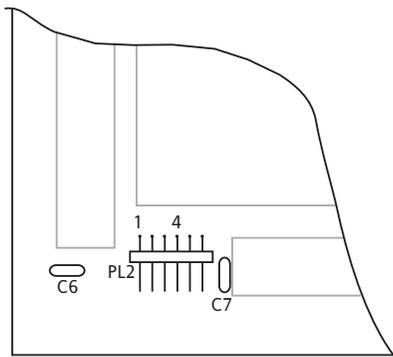
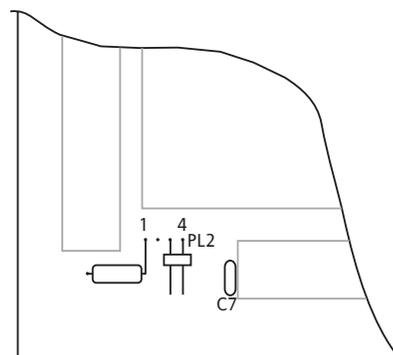

Figure 5.14.1a C6 and C7 fitted
Figure 5.14.1d C7 fitted, C6 not fitted
1. C6 fitted; C7 fitted (figure 5.14.1a). This is an original design board - follow procedure 'A'
2. Remove C6 (figure 5.14.1a)
3. Remove PL2 (four- or six-way connector) (figure 5.14.1a) and replace it with the two-way version, fitted at locations 3 and 4 (figure 5.14.1d)
4. Fit the 1 Ohm resistor supplied, between the right hand end of old C6 position and what was pin 2 of PL2. (figure 5.14.1d). Use ceramic spacers to stand the resistor away from the board.
4. Remove PL2 (four- or six-way connector) (figure 5.14.1a) and replace it with the two-way version, fitted at locations 3 and 4 (figure 5.14.1d)
1. Remove C6 (figure 5.14.1a)